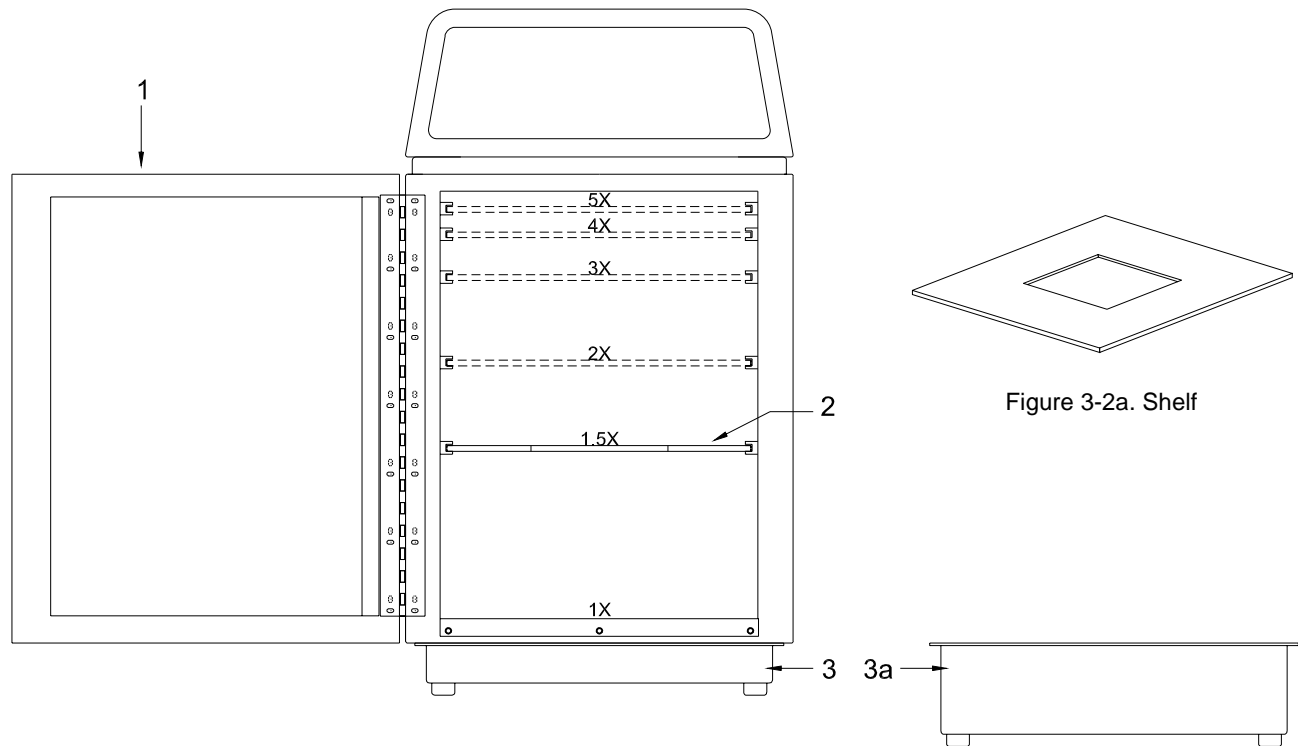

Figure 3.2. Cabinet
2. **Removable Shelf.** The removable shelf (see Figure 3-2a) can be placed in any of five different levels. When the object is placed on the shelf and the recording device is at the bottom of the cabinet, different magnification factors, depending on the shelf location, are obtained. This is indicated in Figure 3-2. Please note that if the object is placed on the shelf in the top position, 5X magnification is obtained and if it is placed directly on the bottom of the cabinet, 1X (no magnification) is obtained.